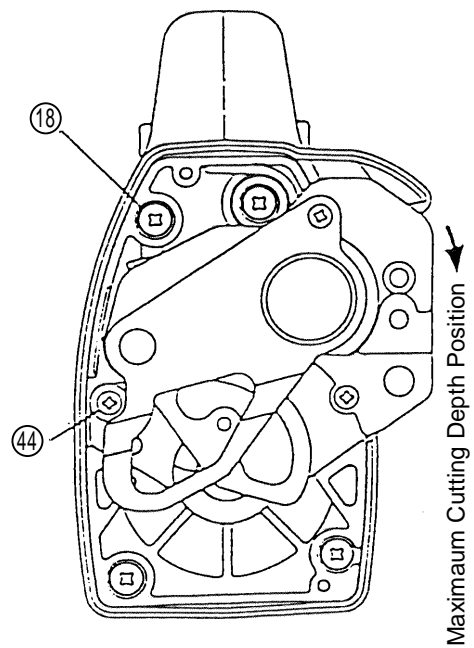

Fig. 22
- (iii) When installing the Gear Cover (20) into the housing, hold Bracket (A) (43) at its maximum cutting depth position (being careful about the pressure applied to the spring), in the same manner as during disassembly. (See Fig. 22)
- (iv) Tighten the four black D5 x 25 Tapping Screws w/Flanges (18) and the two D5 x 35 Tapping Screws (44). (See Fig. 22)